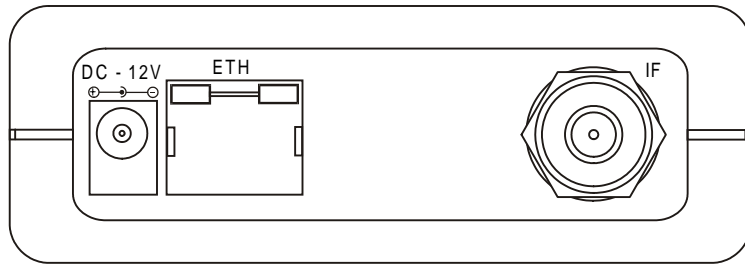

Figure 2-6. SU-NI Rear Panel
2. Connect the SU-PS power cord to the DC In jack (marked DC-12V) located on the rear panel of the Indoor unit (shown in Figure 2-6).